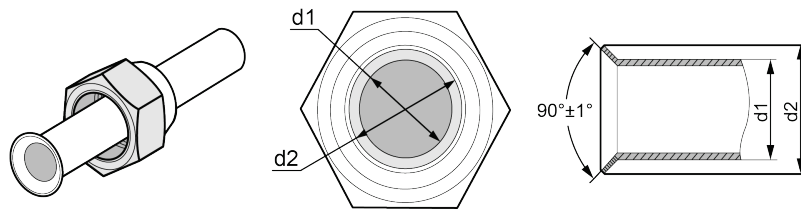

Fig. 19
- (1) Use pipe cutter to cut the connection pipe in case it is unshaped.
- (2) Keep the pipe downward in case cutting scraps get into the pipe. Clear away the burrs after cutting.
- (3) Remove the flared nut connecting indoor connection pipe and outdoor unit. Then use flaring tool to fix the flared nut into the pipe (as shown in Fig.19).
- (4) Check if the flared part is flaring evenly and if there is any crack.